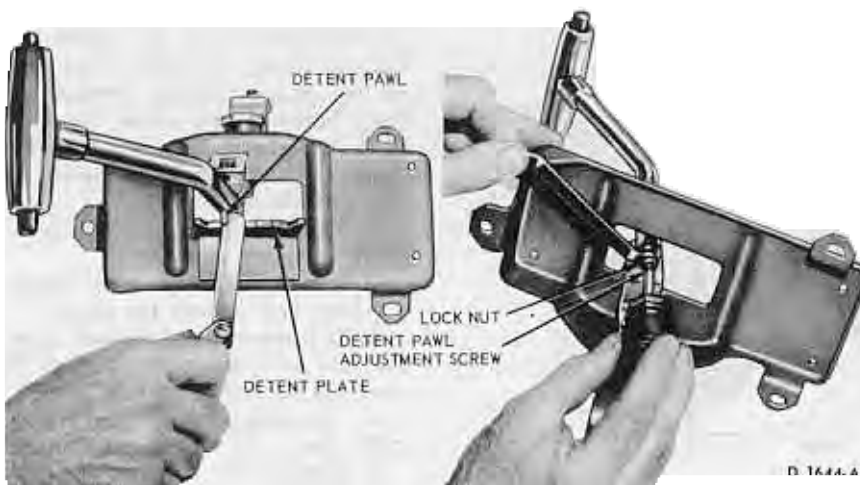

FIG. 14—Selector Lever Detent Pawl Adjustment
10. Position the selector lever as shown in Figure 14. With a feeler gauge, check the clearance between the detent pawl and plate. The clearance should be 0.005 to 0.010 inch. If necessary adjust the height of the detent pawl as shown in Figure 14.